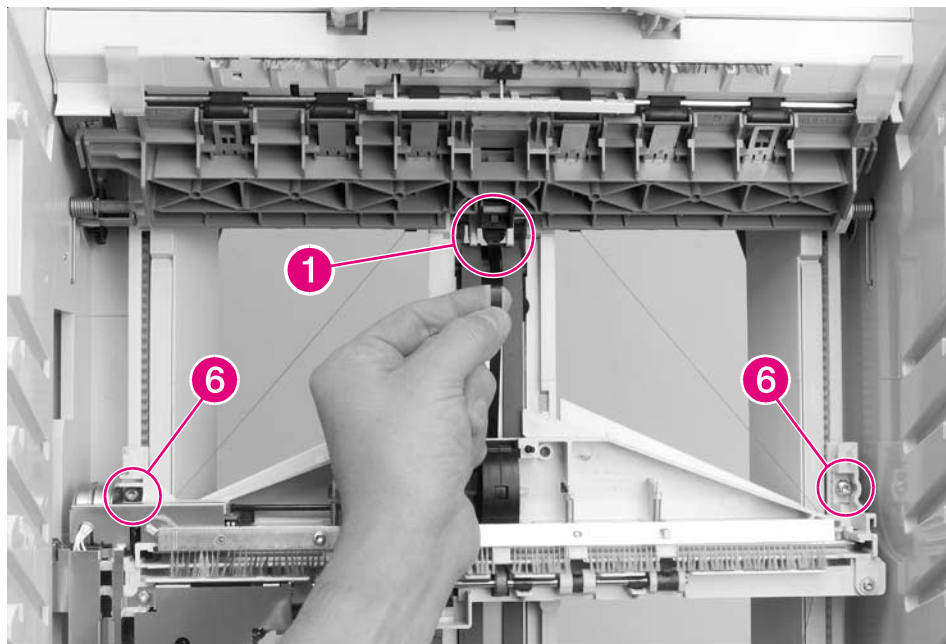

Figure 6-169 8-bin Mailbox Delivery Head Assembly (1 of 4)
- 4 Remove the Delivery Head Assembly from the 8-bin Mailbox frame (see Figure 6-169).
- 3 With the Delivery Head Assembly at the top of the 8-bin Mailbox, hold the Metal Tape near the end, and release the retainer tab that secures the end of the tape to the top of the 8-bin Mailbox frame (Figure 6-169, callout 1). Then let the tape slowly rewind into its housing.
- 8** Hold up the Delivery Head Assembly, and remove the 2 screws that secure it to the elevator mounts: 1 screw on each end of the assembly (Figure 6-169, callout 6). The screw that secures the back end is captive.